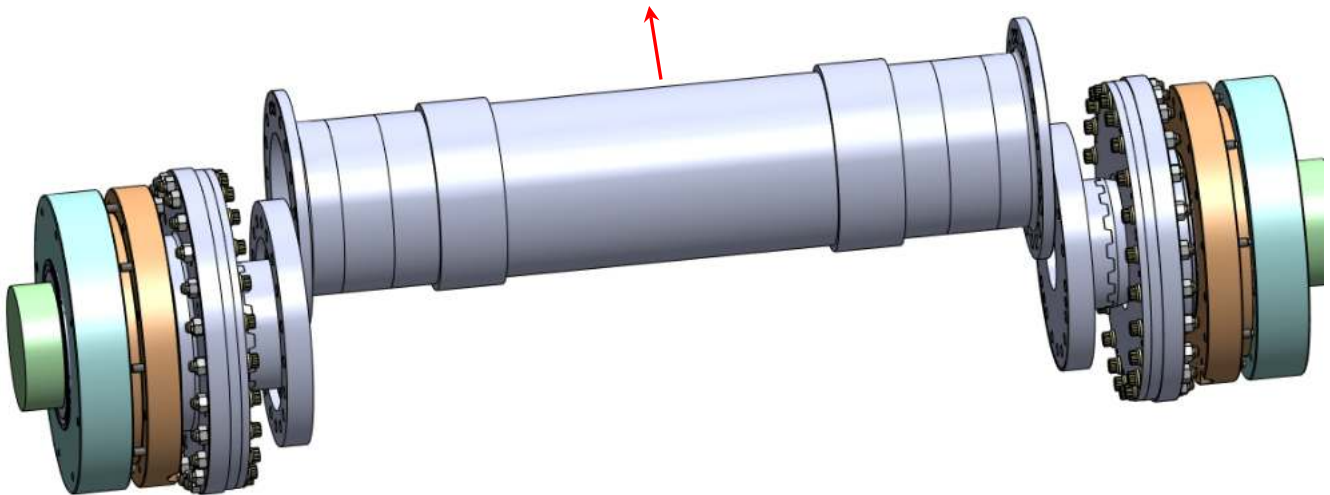

Figure 17 – Center Tube Removal
- 5.1.4 Slide the tube out as shown in Figure 17.